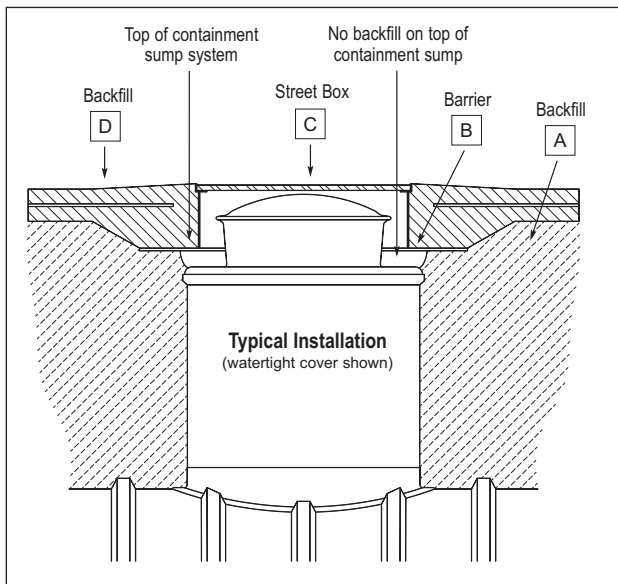

FIGURE 16-8
16.6.2. Backfill around the outside edge of the containment sump, making sure that no backfill is on top of the containment sump. (See FIGURE 16-8, Area A.)
16.6.3.2. Typically, a sheet of plywood (or other material) is used as a barrier and is set on the pea gravel to ensure that there is at least a 3-inch clearance above the containment sump top. (See *FIGURE 16-8, Area B.*)
16.6.5. Set the street box, and check for clearance to allow access and space to remove the watertight cover. (See *FIGURE 16-8, Area C.*)
16.6.6. Continue with backfill, as required, to subgrade. (See *FIGURE 16-8, Area D.*)